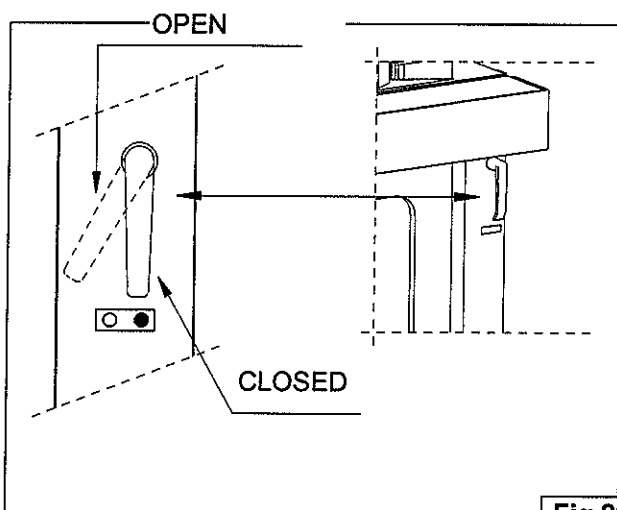

Fig.29
Close and lock the door; close the manual lock on the steam box (**Fig. 29**); set a temperature of 60°C and switch on the fan ☸; press the START button ⬠. The set of elements starts to operate and after a few minutes, when it reaches the temperature set, it should go off.
- Ascertain that the correct temperature is set on the thermoregulator ①
- Open the manual steam vent as shown in **Fig. 29**